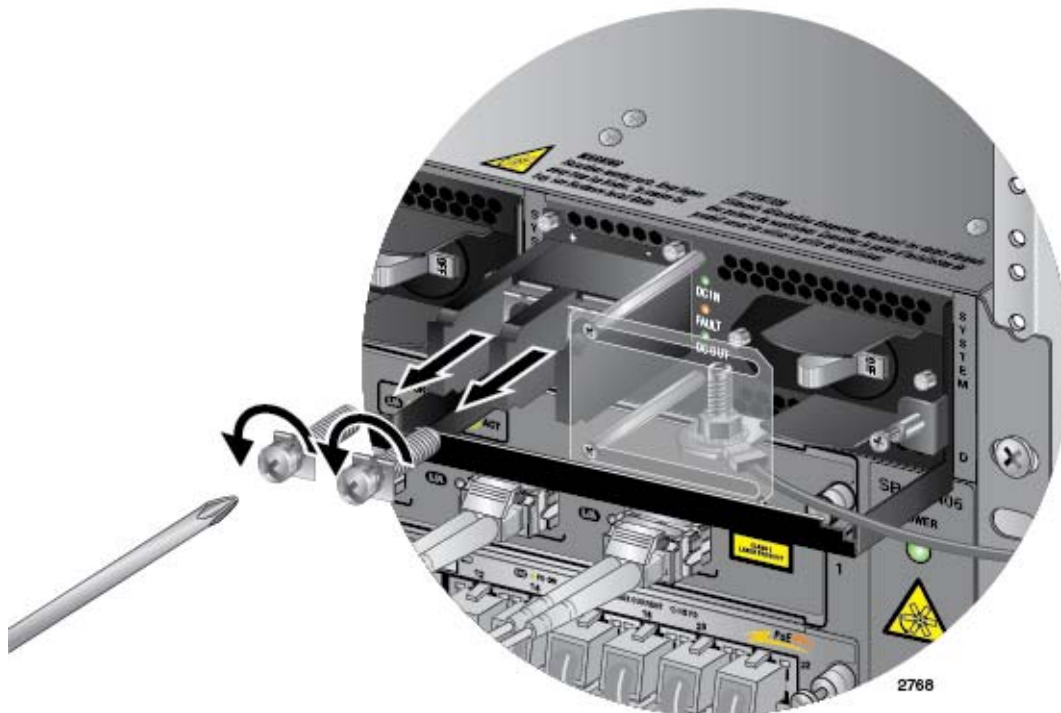

Figure 126. Removing the Terminal Screws
5. Use a #3 Phillips-head screwdriver to remove the two screws from the positive and negative terminals, as shown in Figure 126.
4. Use a #3 Phillips-head screwdriver to remove the two screws from the positive and negative terminals, as shown in Figure 126 on page 184.